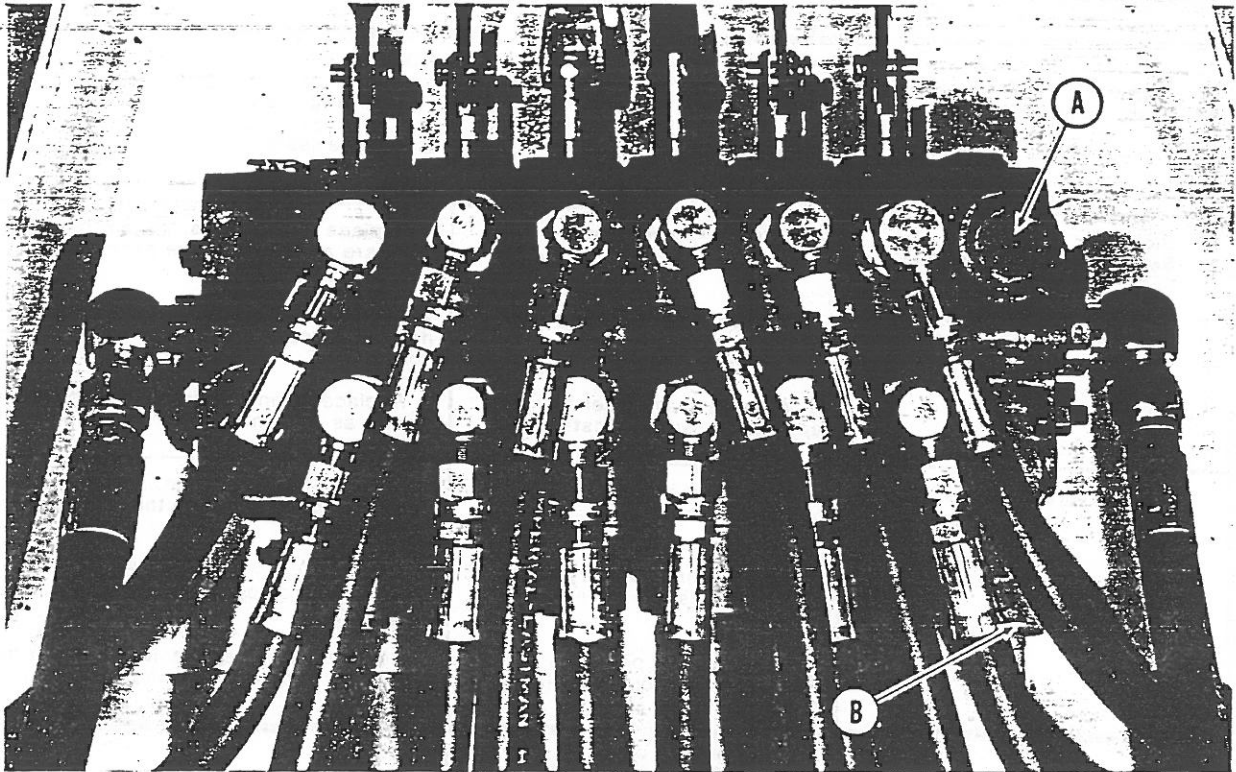

Figure 22
1. Remove O-ring plug (Point A — Figure 22) and install a hydraulic gauge and adapter at this point. *A gauge and adapter kit can be ordered from the factory.*
To adjust the main relief (Point B — Figure 22) remove cap, loosen locknut, hold stabilizer in top position as described in item number 3 above. Screw clockwise to increase pressure or counter clockwise to decrease pressure. When the correct pressure is reached 2000 PSI lock nut and replace cap.